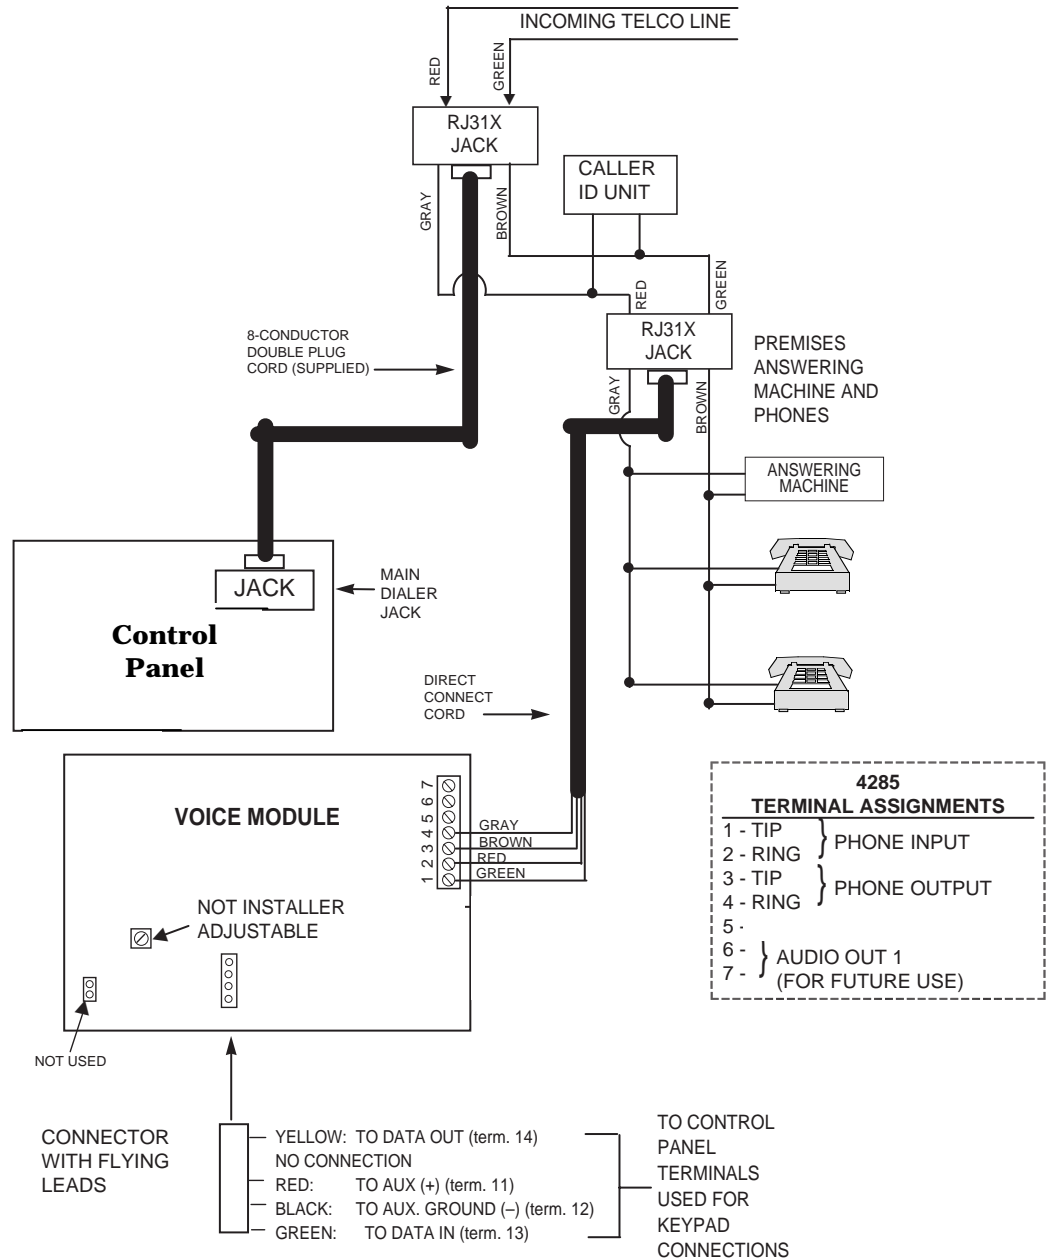

Figure 10-1: 4285/4286 VIP Module Connections
The 4285/4286 is wired between the control panel and the premises' handset(s) (see *Figure 10-1*). It listens for touch tones on the phone line and reports them to the control panel. During on-premises phone access, it powers the premises' phones; during off-premises phone access, it seizes the line from the premises' phones and any answering machines.
1. Make all connections exactly as shown in *Figure 10-1*. This is essential, even if the system is not connected to a central station. **The 4285/4286 will not function if this is not done.** If the leads on the cable are too short to reach their assigned terminals, splice additional wires to them, as required.